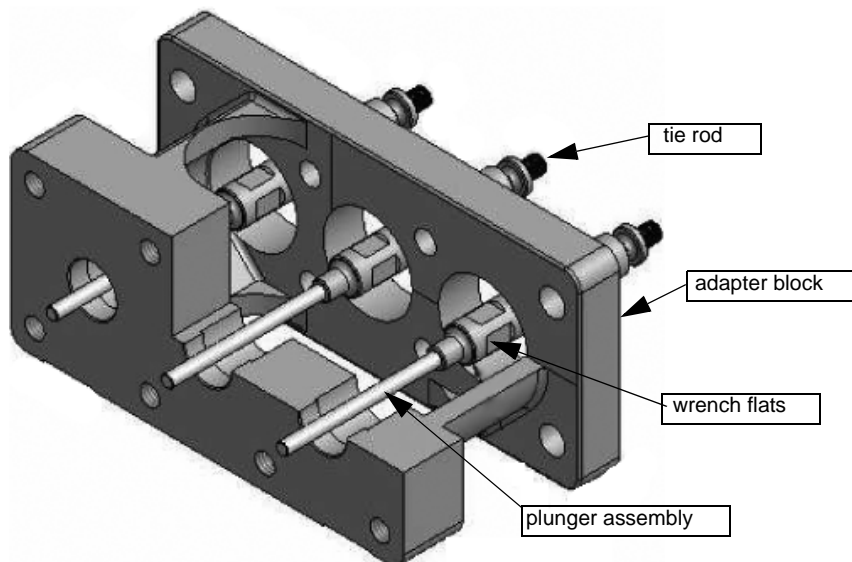

Figure 5-38: Adapter Block, Tie Rod and Plunger Assembly
1. Ensure that the threads on the Plunger Assemblies (Figure 5-38) and the face and threads of the pistons in the crankcase are clean.